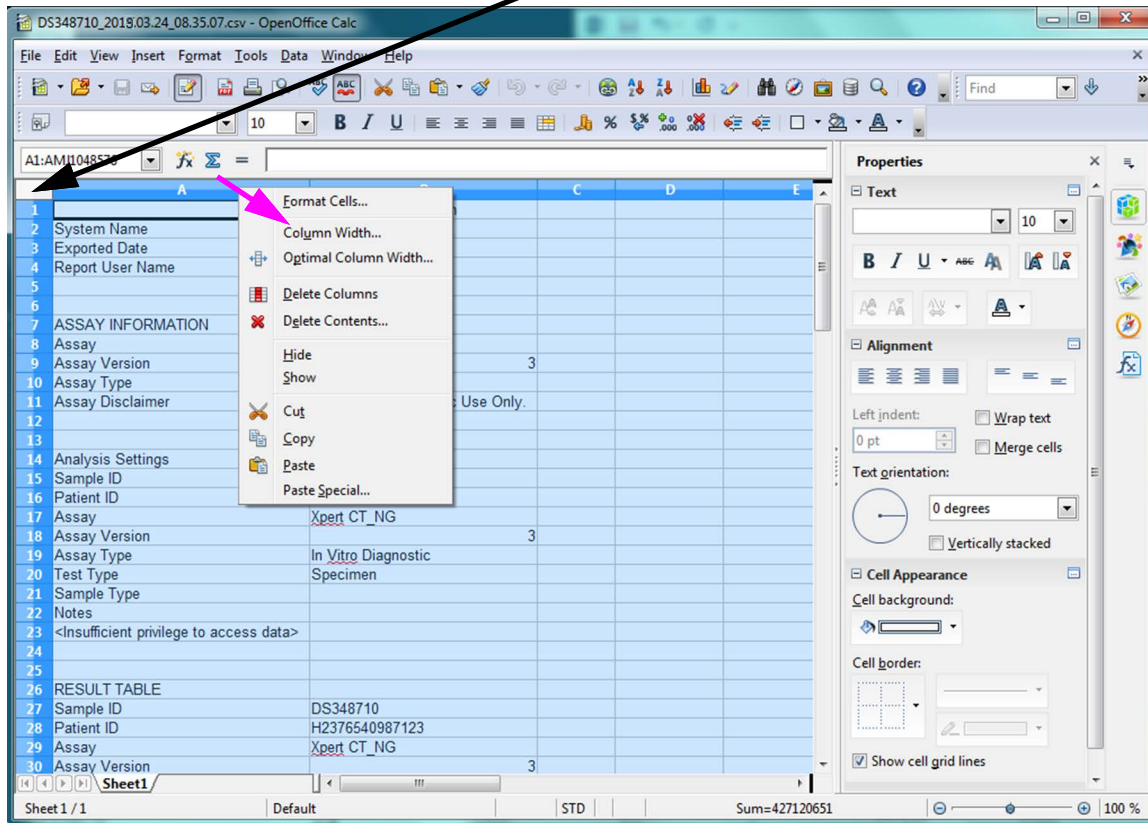

Figure 5-61. Drop-Down Menu to Select Column Width
5. Right click on the column header. A drop-down menu will appear at the right of the column (see Figure 5-61).